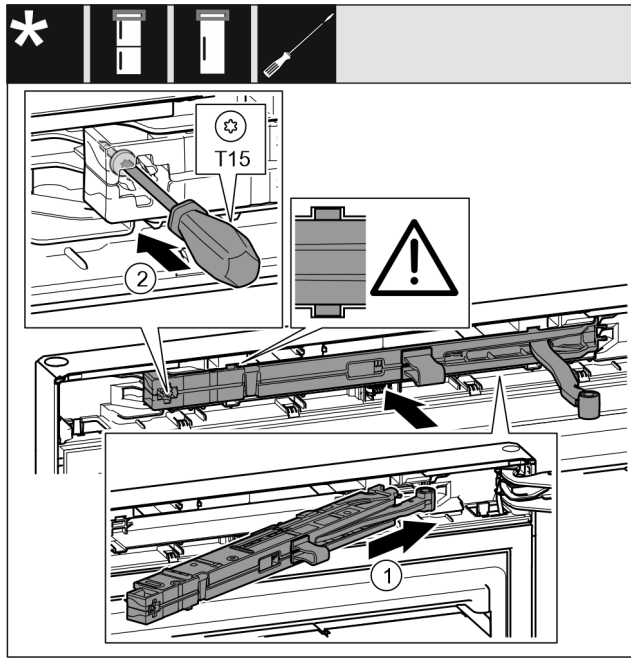

Fig. 46
- ▶ Slide the closing damper unit Fig. 46 (1) on the swap bearing block side up to the stop diagonally into the recess.
- ▶ Tighten the screw Fig. 46 (2) with a screwdriver.